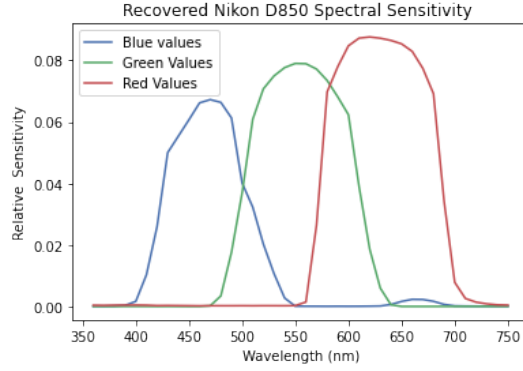

Figure 4: An example of recovered Spectral Sensitivity Function (SSF) of the camera sensor
4. Plot the normalized spectral sensitivity curves for each channel, as seen in Fig.4.